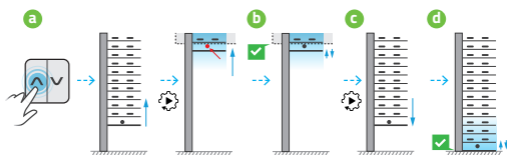

fig. 9.1
6. The MOBILUS EP motor will save the second limit switch- EP motor will make the up/down motion – fig. 9.1 d.